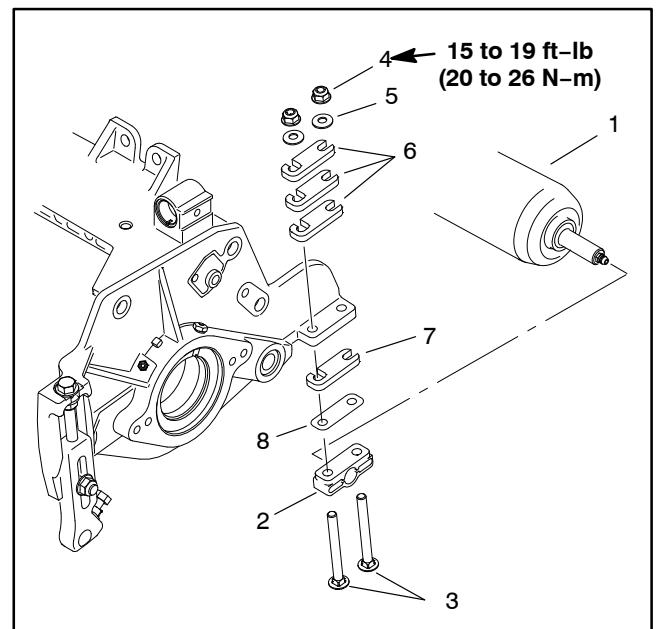

Figure 18
7. If rear roller is still not level after adjusting both side plates, check to see if cutting reel is tapered (see Preparing Reel for Grinding in the Service and Repairs section of this chapter). If cutting reel is not tapered and rear roller is not level, a 0.010" shim (part number 107-4001) is available to allow additional rear roller adjustment. The shim would be used on one side of the rear roller and should be installed between the rear roller bracket and roller shim (Fig. 18). Tighten the flange nuts to a torque from **15 to 19 ft-lb (20 to 26 N-m)**.